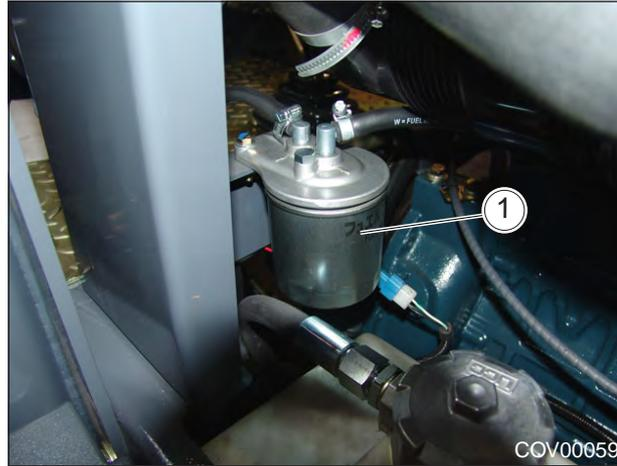

Figure 9.20 - Fuel Filter.
(2) Fuel Filter - Canister Type Element
The fuel filter, Figure 9.20, has a removable canister (1) which must be replaced. It is not a serviceable item.